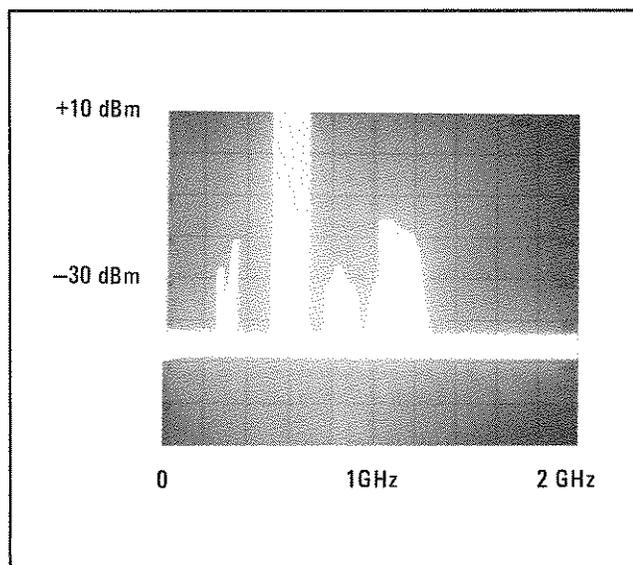

Figure 1-7. RF Output, 512–674 MHz, Without Bandpass Filter (Option 002)
**1-73. Bandpass Filters.** For Option 002, the HP Models 11697A, B, and C Bandpass Filters connect to the RF OUTPUT jack to eliminate harmonic and subharmonic related signals. Figures 1-7 and 1-8 illustrate the advantage of using these bandpass filters. However, a small insertion loss (typically less than 1.1 dB), and impedance mismatch error (typically less than ±0.2 dB) will be introduced into the measurement system which will affect output power, and level accuracy. (Mismatch error is maximum at maximum RF output but can be substantially reduced by increasing the generator's output attenuation.)